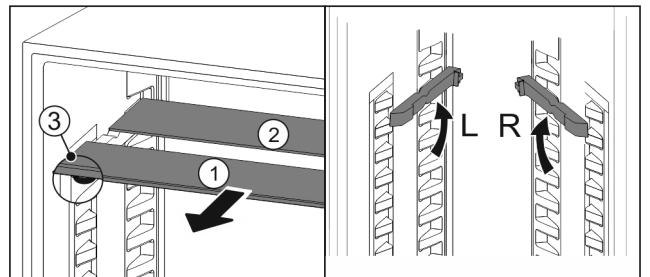

Fig. 49
- ▶ Pull the glass panels out Fig. 49 (1) from the front, one at a time.
- ▷ The glass panel Fig. 49 (1) and trim strip are at the front.
- ▷ The stops Fig. 49 (3) point down.